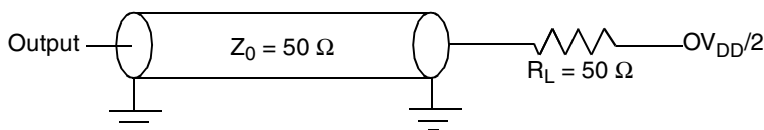

Figure 21. Local Bus C Test Load
Figure 21 provides the AC test load for the local bus.
1. All outputs are measured from the midpoint voltage of the falling/rising edge of  $t_{CLK}$  to the midpoint of the signal in question. The output timings are measured at the pins. All output timings assume a purely resistive 50-Ω load (see Figure 21). Time-of-flight delays must be added for trace lengths, vias, and connectors in the system.
2. The symbols used for timing specifications herein follow the pattern of  $t_{(first\ two\ letters\ of\ functional\ block)(signal)(state)\ (reference)(state)}$  for inputs and  $t_{(first\ two\ letters\ of\ functional\ block)(reference)(state)(signal)(state)}$  for outputs. For example,  $t_{JTDVKH}$  symbolizes JTAG device timing (JT) with respect to the time data input signals (D) reaching the valid state (V) relative to the  $t_{JTG}$  clock reference (K) going to the high (H) state or setup time. Also,  $t_{JTDXKH}$  symbolizes JTAG timing (JT) with respect to the time data input signals (D) went invalid (X) relative to the  $t_{JTG}$  clock reference (K) going to the high (H) state. Note that, in general, the clock reference symbol representation is based on three letters representing the clock of a particular functional. For rise and fall times, the latter convention is used with the appropriate letter: R (rise) or F (fall).